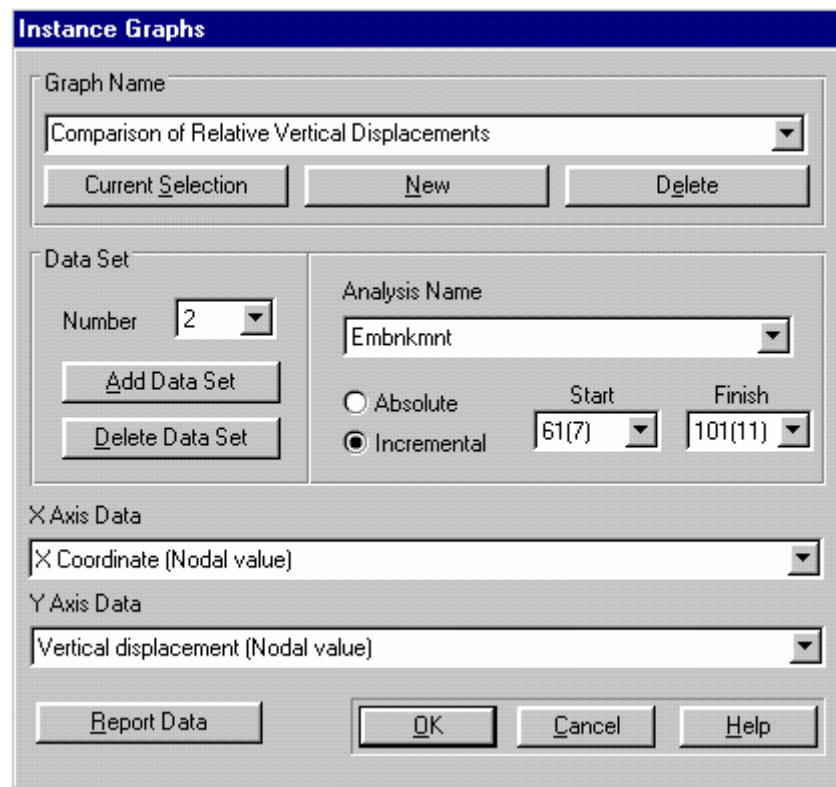

Figure 6-38: Setting Up An Instance Graph
- Step 9** Click on **Incremental** and enter **Start** and **Finish** values of 61 and 101. The Instance Graph Dialogue box should look like Figure 6-38.